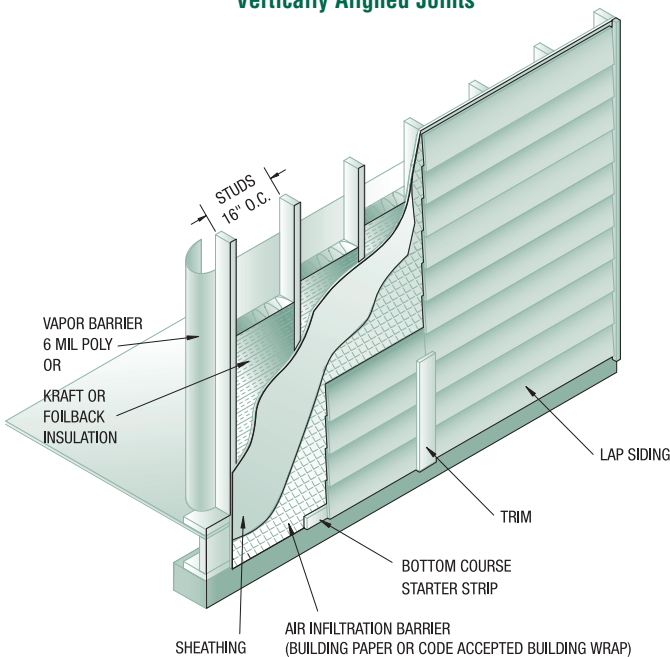

FIG. 5
- A continuous vapor barrier rated 1 perm or less is required across the interior side of all walls to be sided. Examples include 6 mil polyethylene and kraft-backed or foil-backed insulation stapled tightly to the face or sides of the studs. See Fig 5 or 6.
- Vertically align butt joints at a stud (*See Fig 5*), fasten as required, gap 3/16", caulk, and cover with trim.